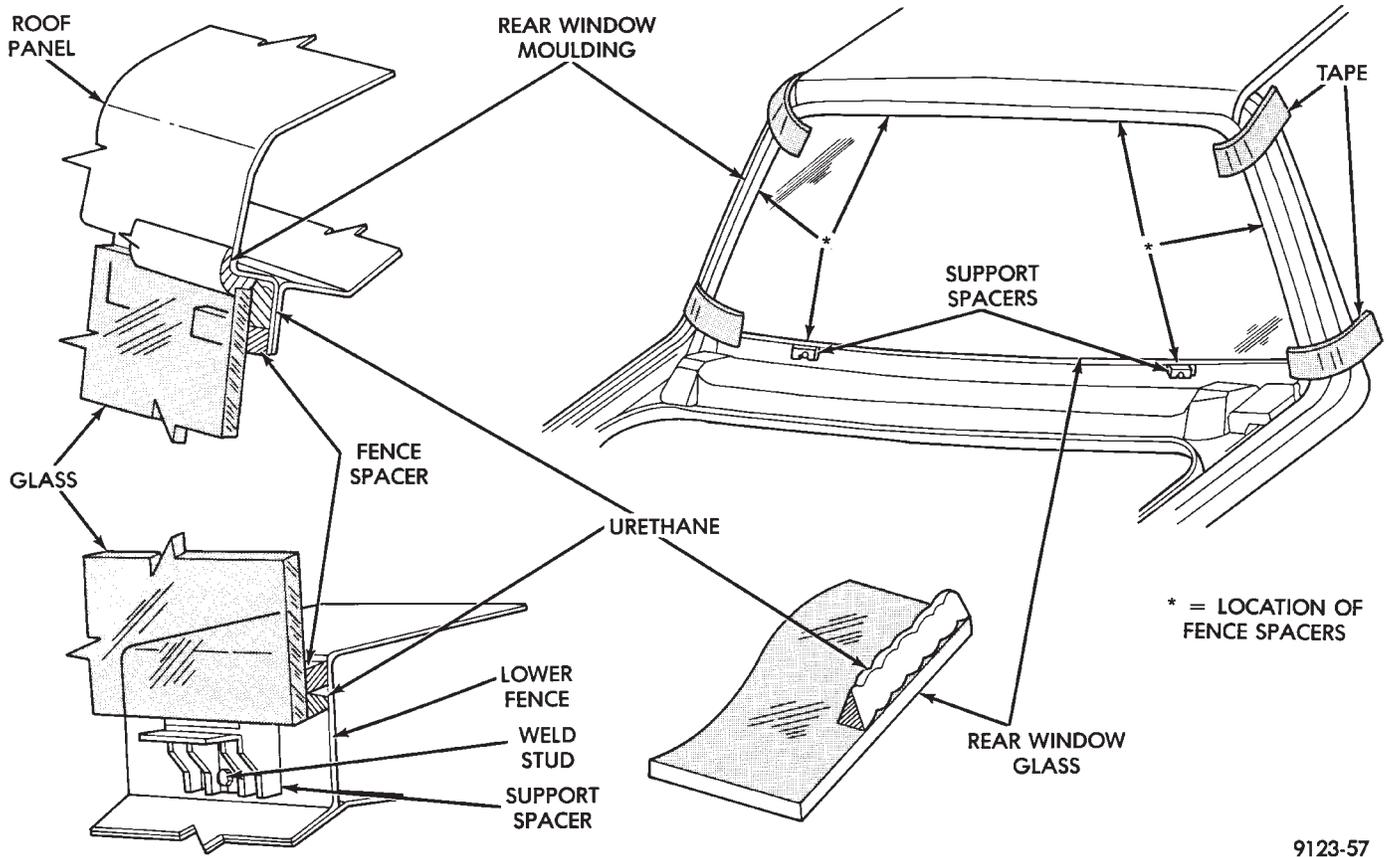

Fig. 32 Rear Window Glass—Typical
REMOVAL (FIG. 32)
(1) Prepare the work area, window fence, and glass the same way as described in the Windshield section of this group.
(2) Place fence spacers at the locations shown (Fig. 32).
(3) Apply a 10 mm (0.4 in.) bead of urethane around the perimeter of the glass.
(4) Install the glass in the same manner described in the Windshield section of this group.
(5) Install roof bonnet.
(6) Connect rear window defogger wiring. Install interior trim and rear deck filler panel.
(7) After urethane has cured, water test rear window to verify repair. Verify rear window defogger operation, see Group 8N, Rear Window Defogger.